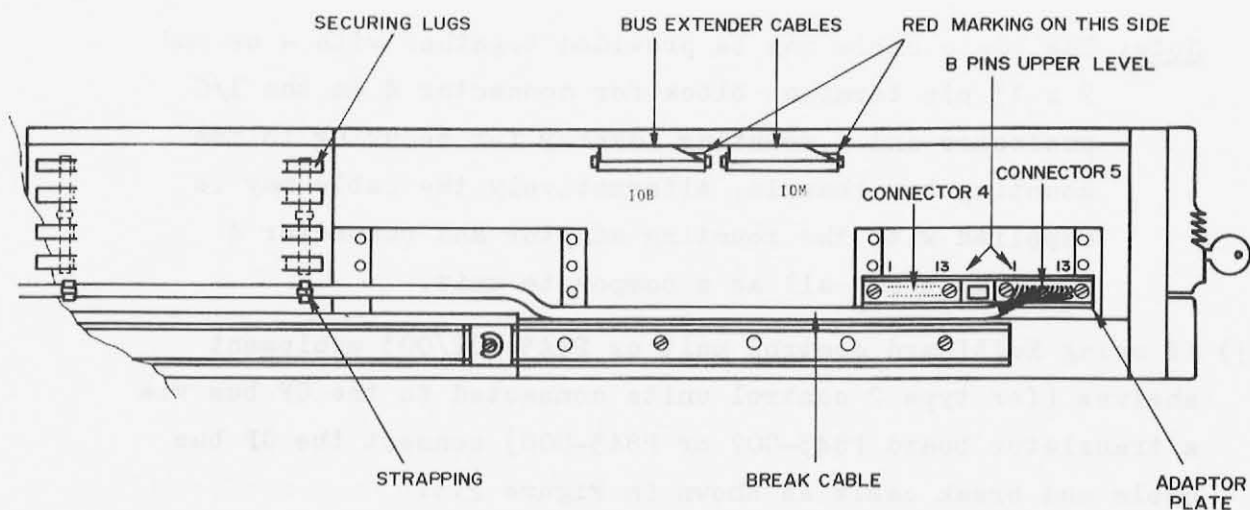

FIG. 2.2. GP BUS AND BREAK CABLE CONNECTION
- (g) Connect the two General Purpose bus extender cables (if supplied with the equipment) as shown in Fig 2.2. to connectors IOM and IOB.
- (h) Connect the break request cable (if used with the system) to the basic mounting box as shown in Figure 2.2.